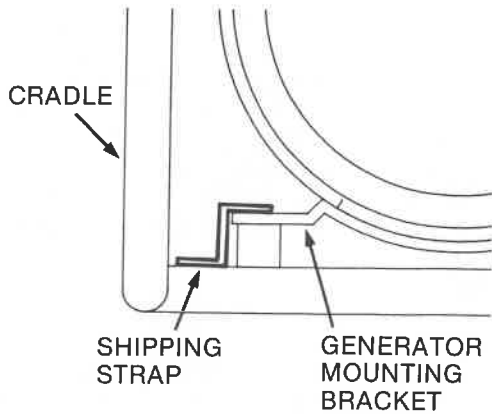

Fig C-1
3. After removing the engine generator from the carton locate and remove the shipping strap attached the generator shock mount. See the tag attached for removal instructions. Fig C-1 shows the location of the tag and the shipping strap.